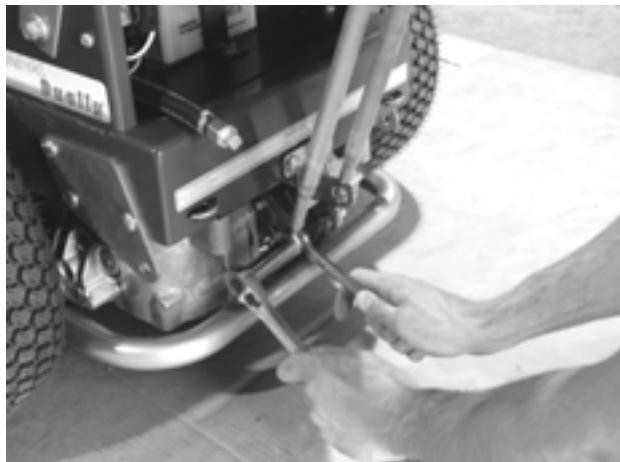

Figure 59
1. Remove the Hydro Control Rods from Hydro Arms **Figure 59**.